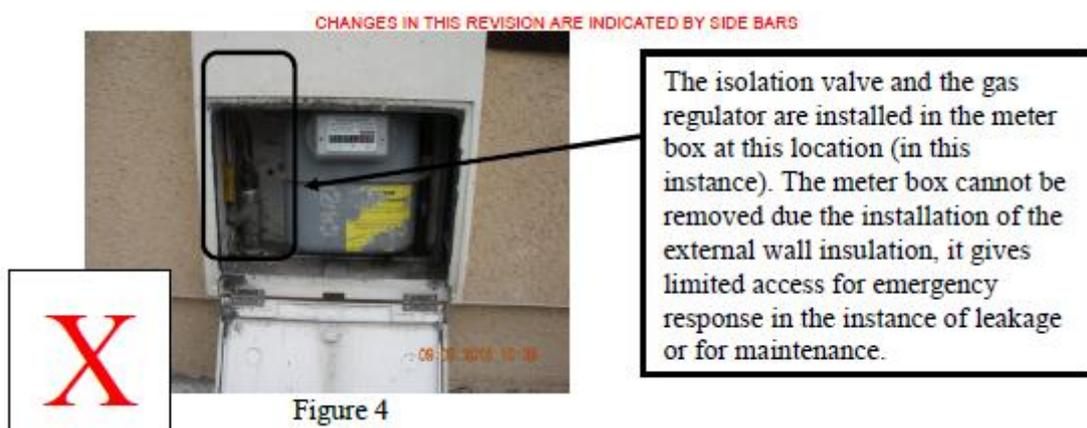

Figure 4
- Limited/No access to the gas isolation valve, gas meter and pressure regulator. See Figure 4 below.